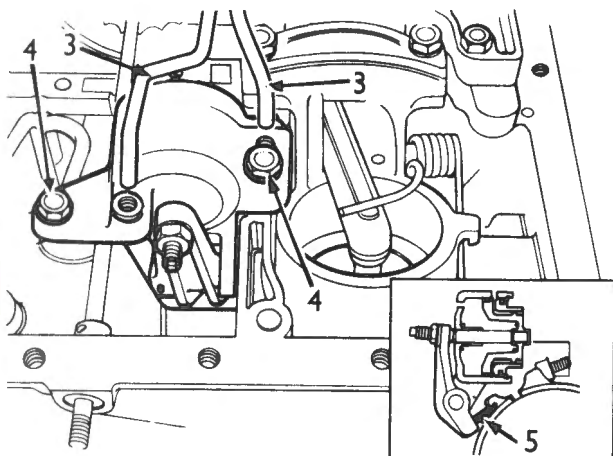

Fig. M-56
- 5 Extract the brake band strut. Insert Fig. M-56.